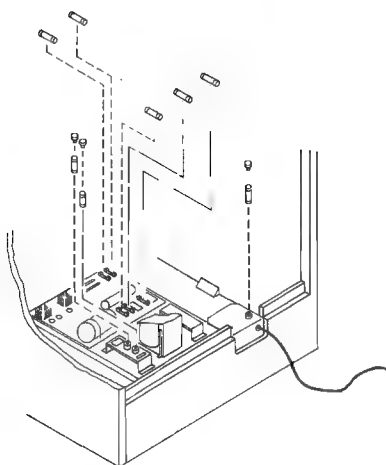

FIGURE 2-2 FUSE REPLACEMENT
This game contains eight (8) fuses. Two (2) fuses can be found on the Regulator PCB and five (5) can be found on the Transformer Assembly. Two (2) fuses are located at the bracket where the AC line cord comes into the cabinet. See Figure 2-2 for locations of these fuses.